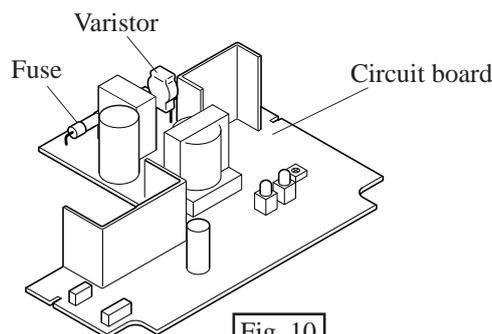

Fig. 10
(2) Pressing the compression spring 4, insert the boss of terminal cover into the elliptic hole of charger case. And mount the another end of compression springs 4 to the bosses of charger case as illustrated in Fig. 10. Fasten the terminal cover with tapping screw flange BT3x10. See Fig. 10.
Remove the broken varistor with the soldering iron. Sold the fresh varistor to the position illustrated in Fig. 10.
Remove the broken fuse with the soldering iron. Sold the fresh fuse to the position illustrated in Fig. 10.